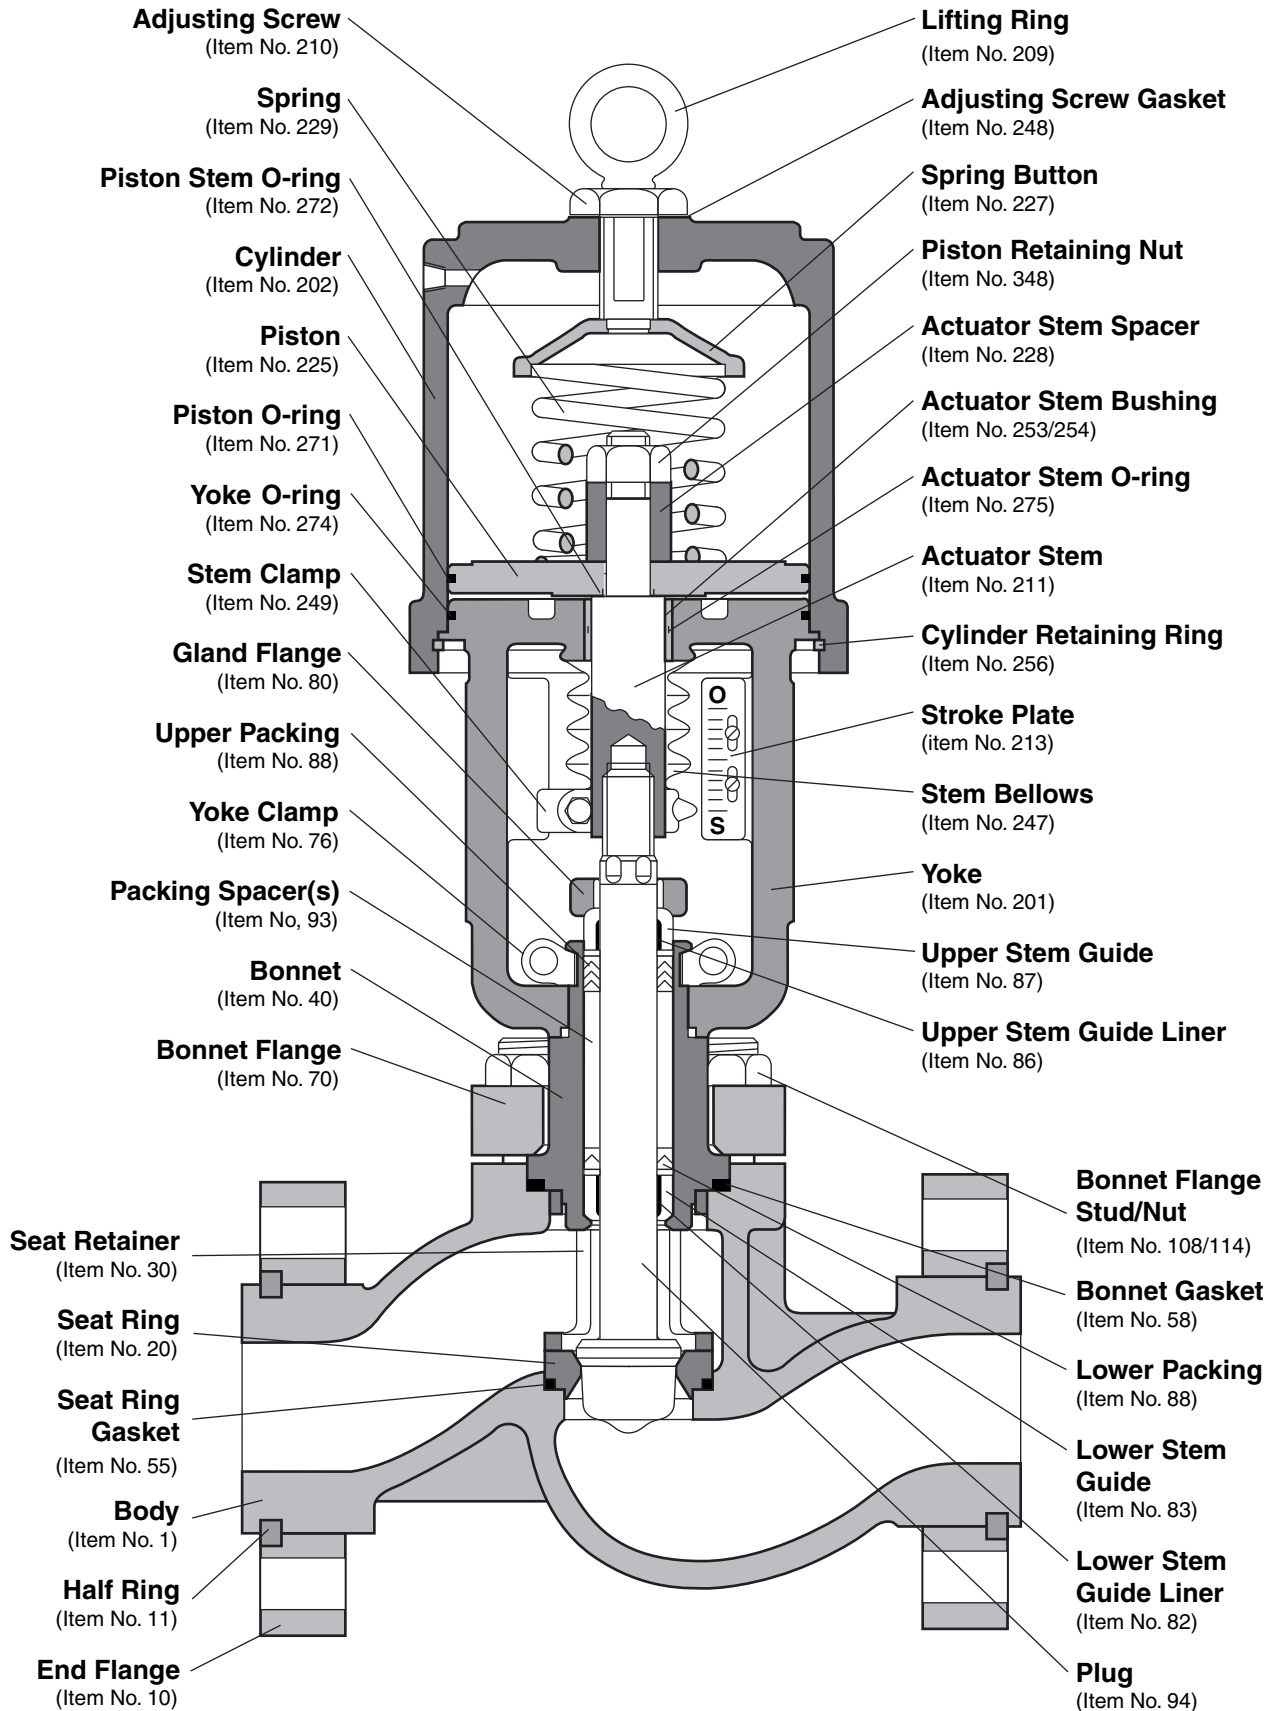
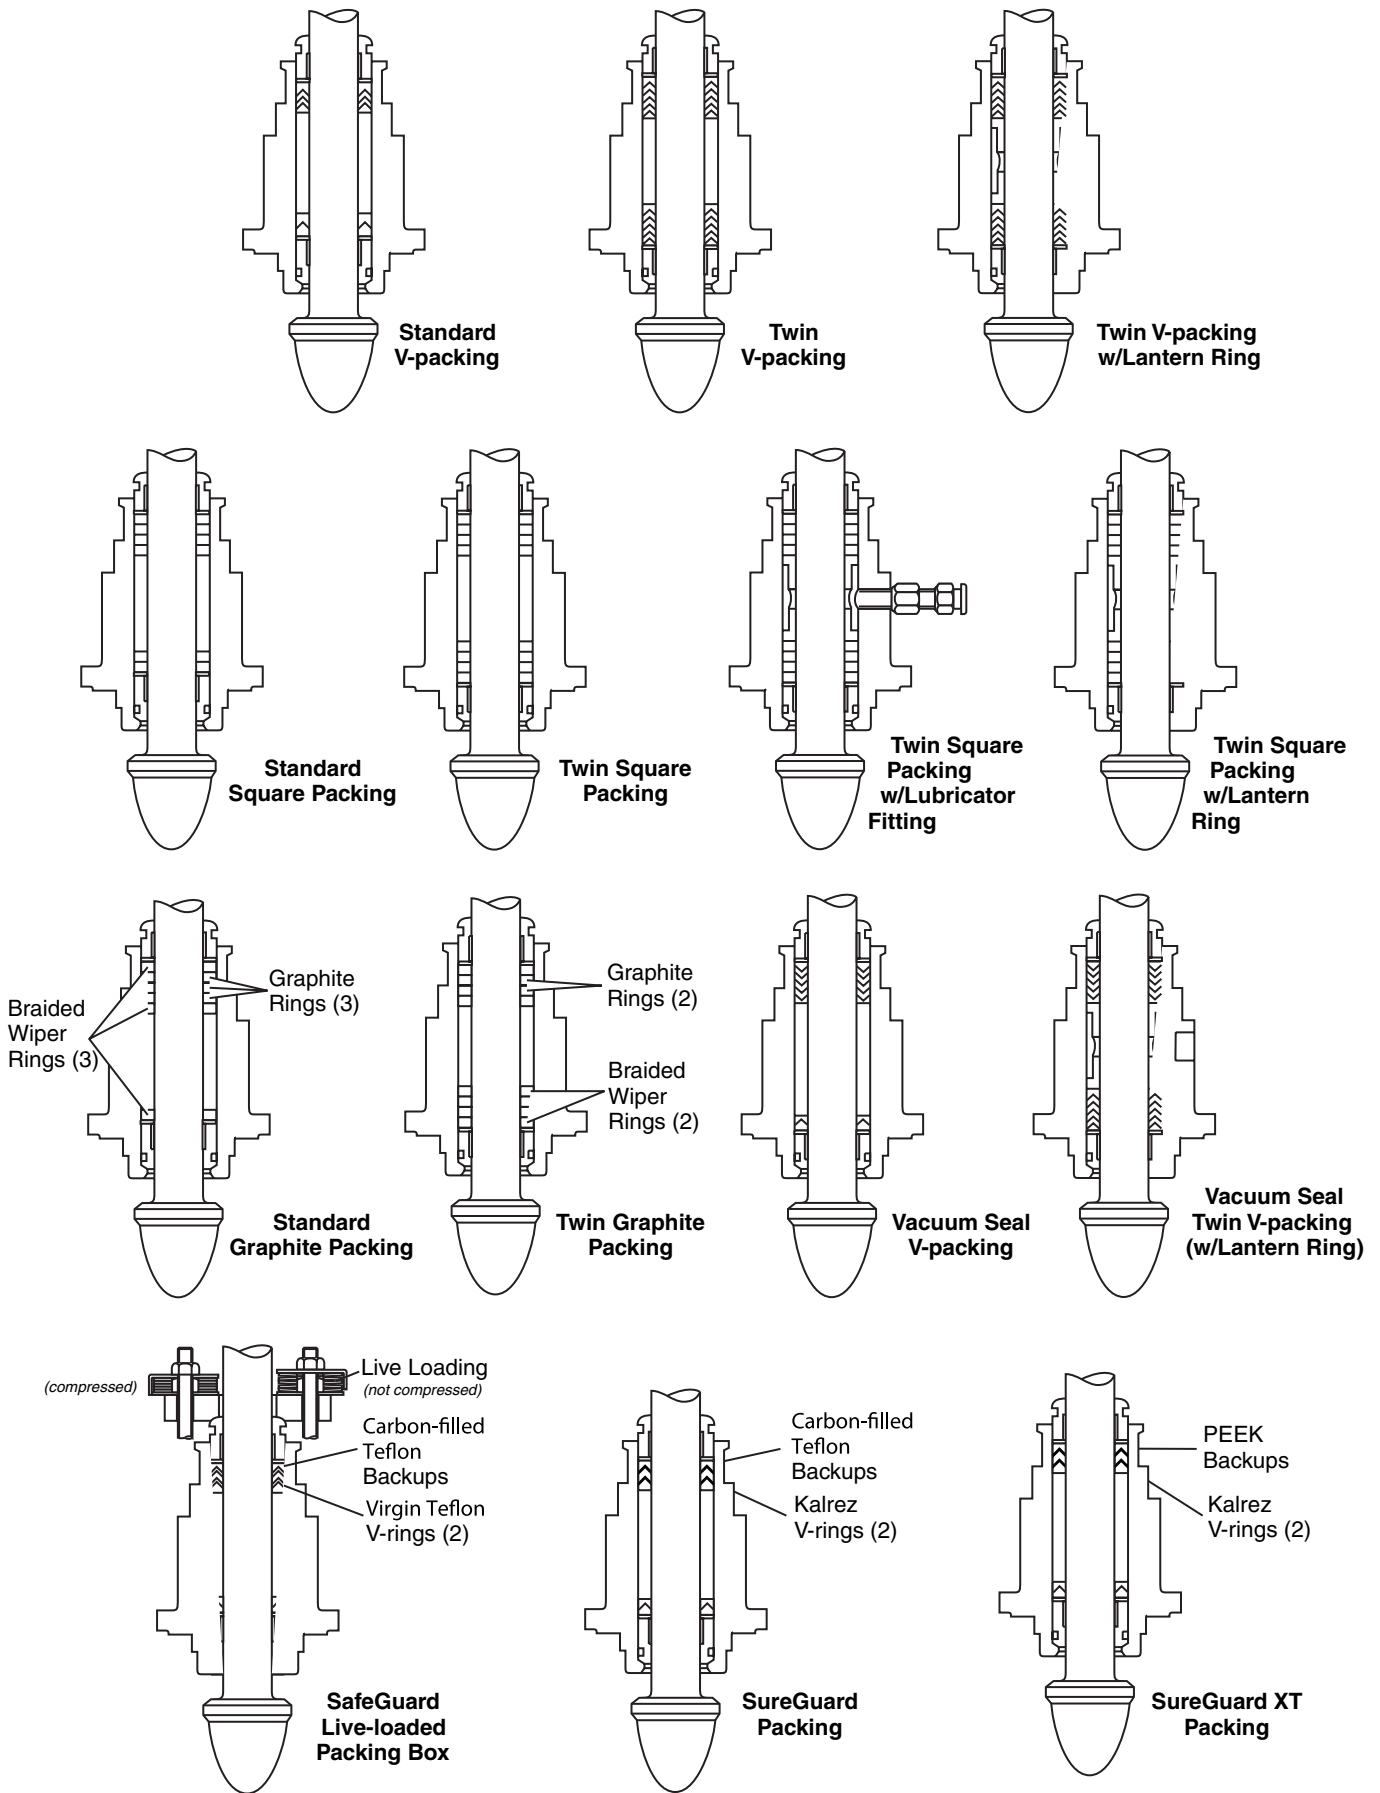

Figure 1: GFlo Control Valve
Figure 2 : Typical Packing Configuration
Refer to Figures 1 and 4 and proceed as given below :
1. Refer to Figures 1, 2 and 4 and proceed as follows to reassemble the valve body: 1. Refer to Figure 2 and reinstall new packing exactly as shown, if the packing has been removed. Make sure at least 1/8" is left at the top of the packing box for the top guide to enter. Different spacer lengths permit a wide variety of packing configurations, such as twin seal and vacuum-pressure packing.